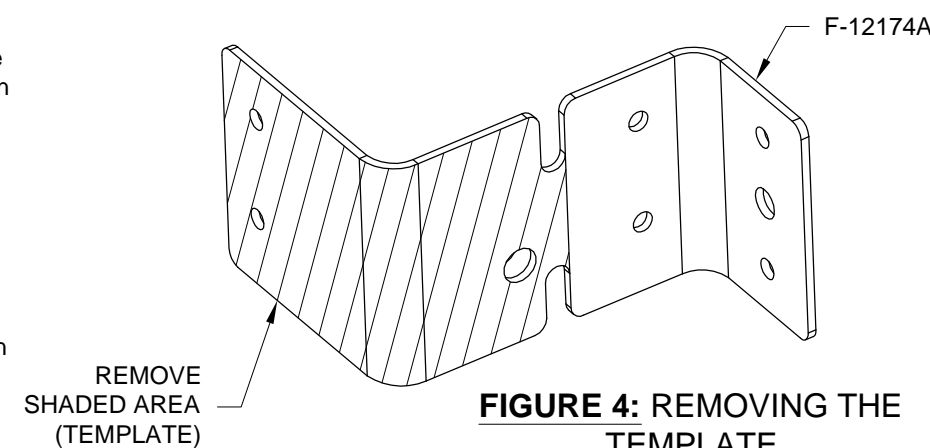

FIGURE 4: REMOVING THE TEMPLATE
Step 8: Remove the template portion of the F-12174A AP74 Mount Bracket as shown in Figure 4.